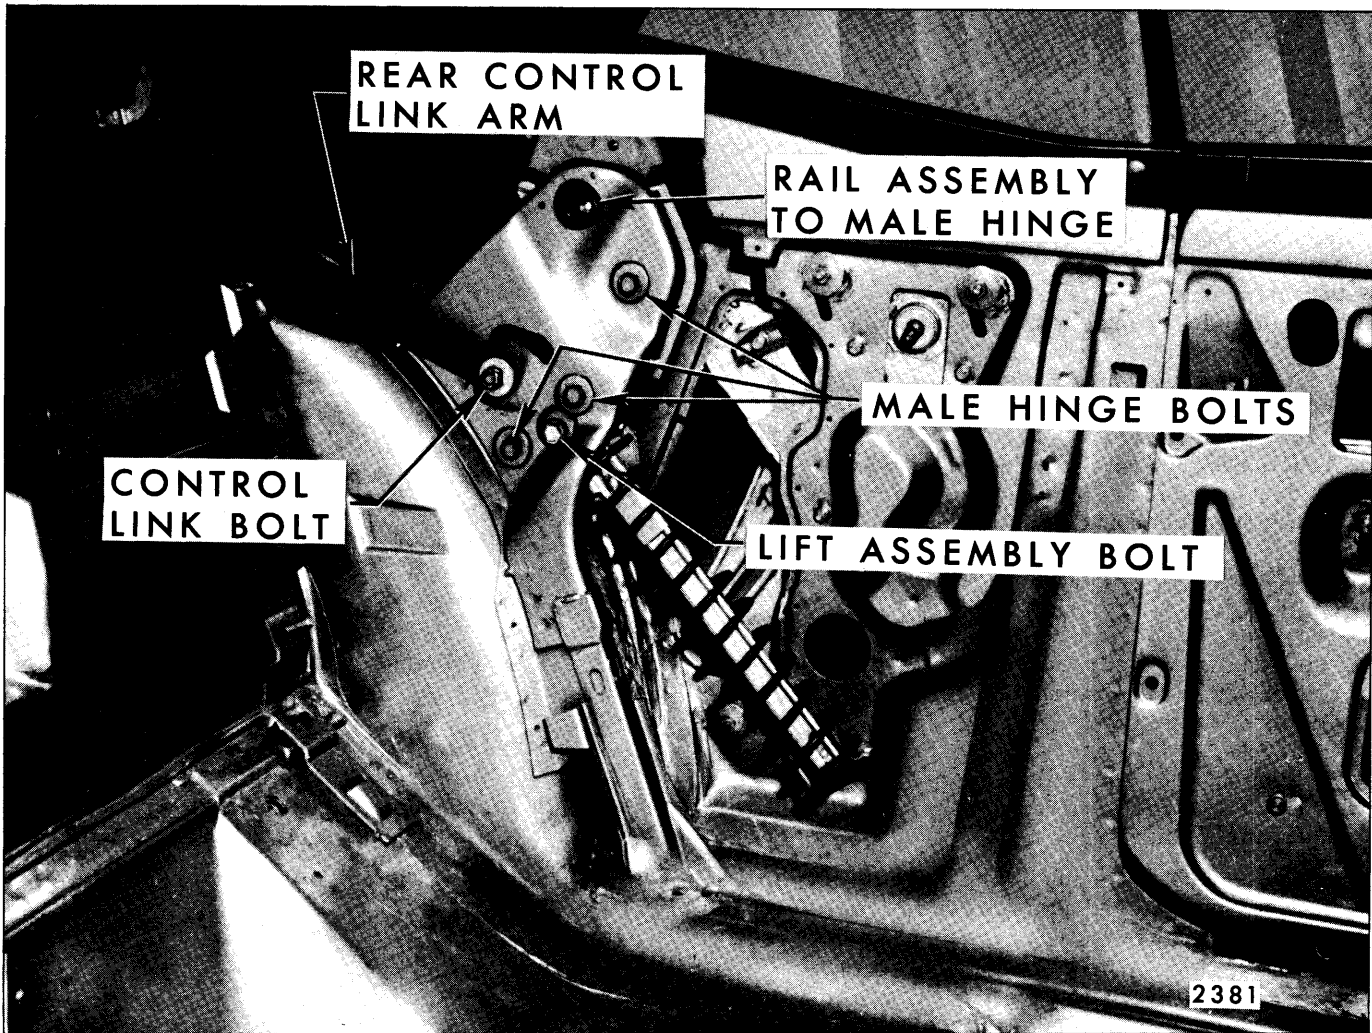

Fig. 13-82—"F" Body Convertible Top Linkage Attachments
- b. Loosen one bolt securing control link sufficiently to permit adjustment of link (See Fig. 13-82).
- b. Loosen male hinge assembly (Fig. 13-82).
- b. Loosen male hinge assembly (See Fig. 13-82).
- c. Rotate male hinge forward to lower stack height or rearward to raise stack height (Fig. 13-82).
NOTE: When rotating male hinge be certain position of rear rail to male hinge is maintained (Fig. 13-82).
2. Male hinge assembly misaligned.	Adjust male hinge assembly rearward. (Fig. 13-82.)
2. Male hinge assembly misaligned.	Adjust male hinge assembly forward. (Fig. 13-82.)